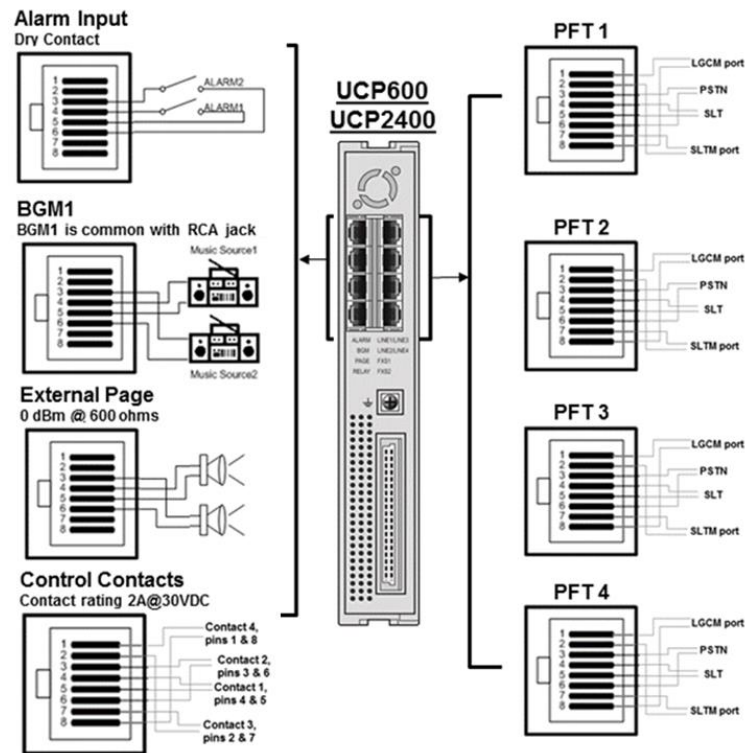

Figure 6.2-2 UCP600/2400 Miscellaneous & Power Fail Transfer Connections
For the iPECS UCP600 and UCP2400 modules, the eight (8) RJ-45 connectors on the rear panel are terminated for miscellaneous functions and Power Fail functions. Wire these connectors as depicted in the sketch of figure 6.2-2.